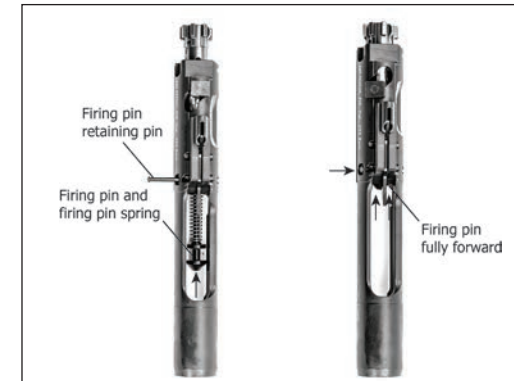

Fig. 36 – Firing Pin Retaining Pin Installation
- e. Ensure that the firing pin retaining pin is properly installed by pivoting upwards on the firing pin safety while pushing backwards on the bolt head. The firing pin should be retained inside the bolt carrier (Fig. 36).